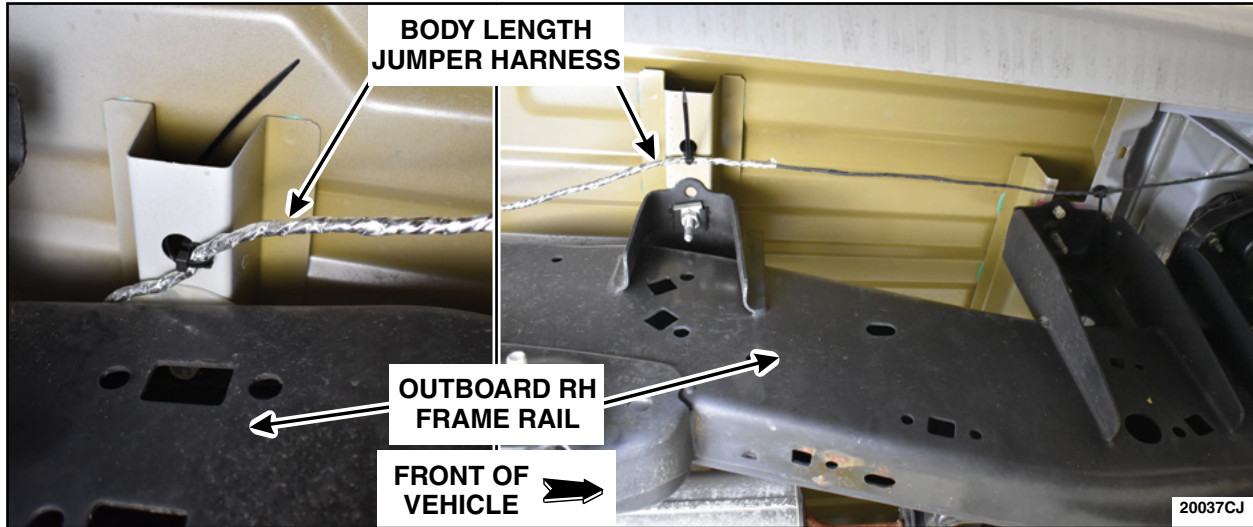

FIGURE 92
83. Route the Body Length Jumper Harness over the RH frame rail and continue on the outboard RH frame rail as close to the bed as possible. Secure the Body Length Jumper Harness to the holes within the underside of the bed and to the outboard RH frame using the assorted supplied tie straps approximately every 12 in (305 mm). See Figure 92.